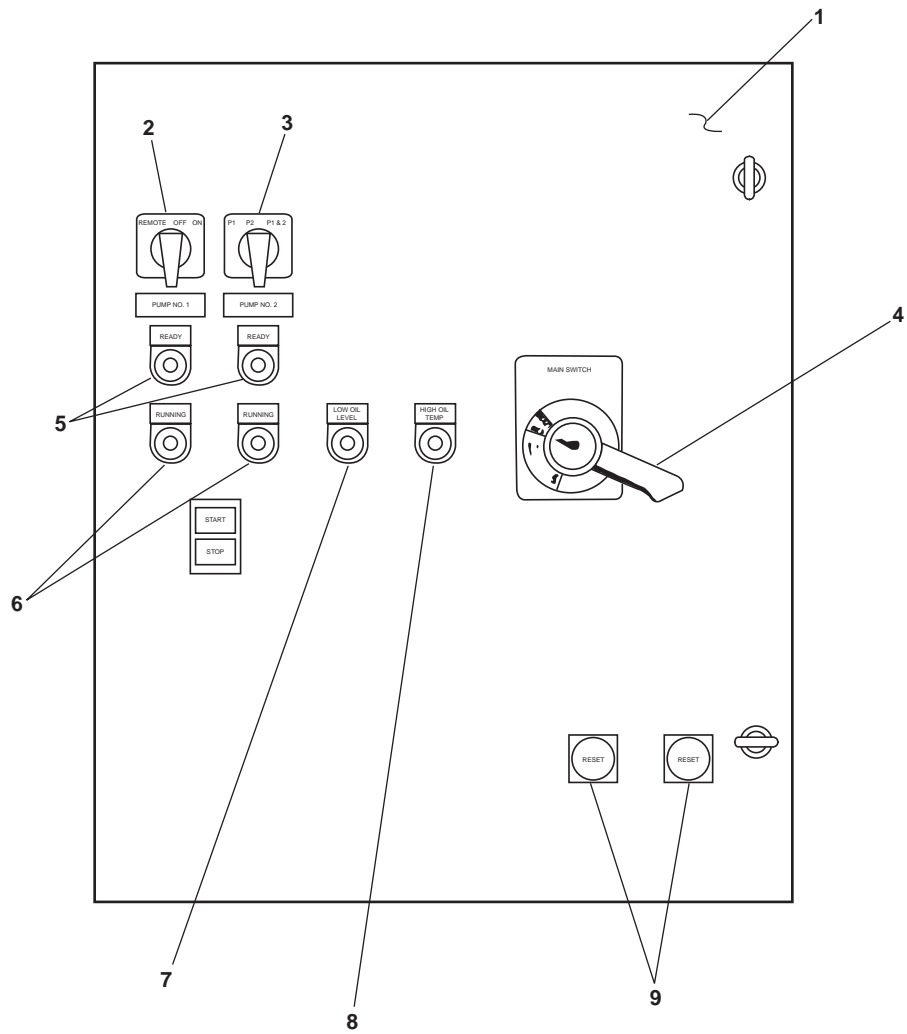
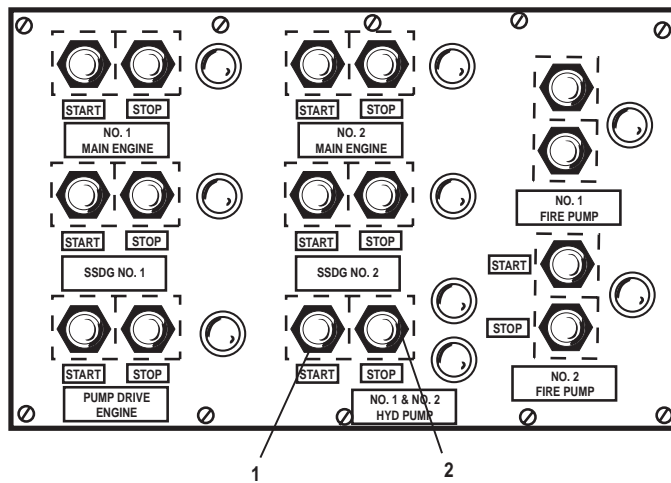

Figure 2. Central Hydraulic Power Unit Motor Controller
Figure 3. Machinery Control Panel in EOS
The central hydraulic power unit motor controller (figure 2, item 1), mounted forward and above the system's reservoir, provides the primary source of control for the central hydraulic system. Remote START/STOP control of the system is also provided via controls on the Enclosed Operating Station (EOS) console (figure 3).
The central hydraulic power unit motor controller contains a REMOTE/OFF/ON selector switch (figure 2, item 2). This switch permits the operator to determine whether the ON/OFF control will be achieved locally (OFF and ON positions) or remotely (REMOTE position) from the EOS. The P1/P2/P1&P2 selector switch (figure 2, item 3) permits the operator to select which pump(s) will operate when the system is turned ON. The MAIN SWITCH (figure 2, item 4) is the primary power disconnect for the system's electric power. READY (figure 2, item 5) and RUNNING (figure 2, item 6) indicator lights are provided for each pump to indicate the pump's condition. LOW OIL LEVEL (figure 2, item 7) and HI OIL TEMP (figure 2, item 8) lights are also provided to signal these alarm conditions. The final components of the control panel are the reset switches (figure 2, item 9). These pushbutton switches permit the operator to reset the electric motor(s) after the thermal resets have tripped.
When the main disconnect switch (figure 4, item 1) is CLOSED (ON), power is supplied to the control panel (figure 2, item 1).
If the REMOTE/OFF/ON switch (figure 4, item 3) is in the OFF position, the switch is OPEN and no power is supplied to the low oil level switch's (figure 4, item 4) Normally Closed (NC) contacts. If the switch is in the ON position, the switch is CLOSED between terminals 13 and 14, supplying power to the low oil level switch's NC contacts. If the switch is in the REM position, the switch is CLOSED between terminals 21 and 22, supplying power to the REMOTE/OFF/ON switch (figure 4, item 3) in the EOS console. When the START pushbutton (figure 3, item 1) is pressed, the switch CLOSES, supplying power to the low oil level switch's NC contacts. When the STOP pushbutton (figure 3, item 2) is pressed, the switch is OPEN, securing power to the low oil level switch's NC contacts.